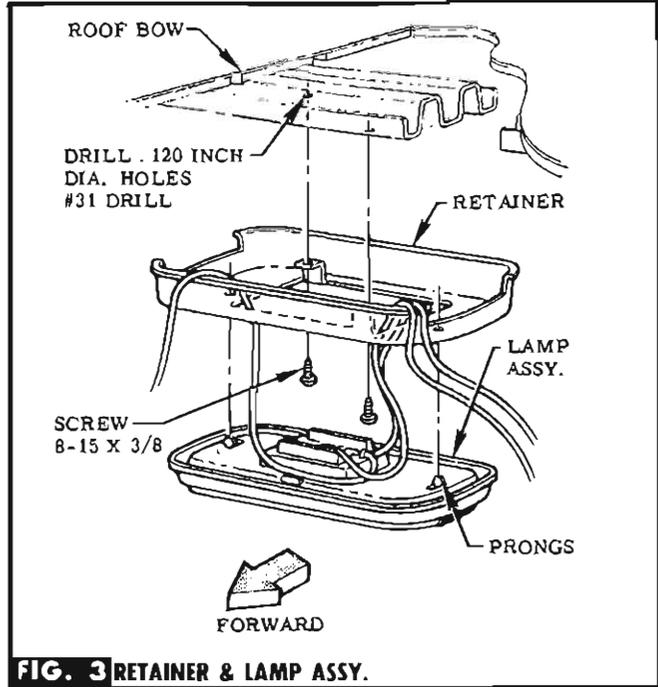

FIG. 3 RETAINER & LAMP ASSY.
STEP 3a DRILL HOLE THRU EXISTING DIMPLE IN EACH FRONT SIDE DOOR HINGE PILLAR. SEE FIG. 3.
STEP 4a ROUTE TERMINAL WIRE (WHITE) UNDER INSTRUMENT PANEL & OUT THRU DRILLED HOLE IN L. H. SIDE DOOR HINGE PILLAR. INSERT TERMINAL INTO JAMB SWITCH. SEE FIG. 3.
STEP 5a HOLDING JAMB SWITCH SO THAT TERMINAL IS TOWARD CENTER OF CAR, PRESS INTO POSITION. SEE FIG. 3.
STEP 5 POSITION RETAINER ON CENTER OF REAR ROOF BOW & USE IT AS A TEMPLATE TO DRILL HOLES. SEE FIG. 3.
STEP 6 PASS LAMP ASSY. THRU RETAINER & ATTACH RETAINER TO BOW WITH SCREWS PROVIDED. SEE FIG. 3.
STEP 7 DRAW LAMP ASSY. UP TO RETAINER BY PULLING UP ALL LEADS THEN PRESS LAMP ASSY. TO RETAINER UNTIL PRONGS SNAP INTO PLACE. SEE FIG. 3.